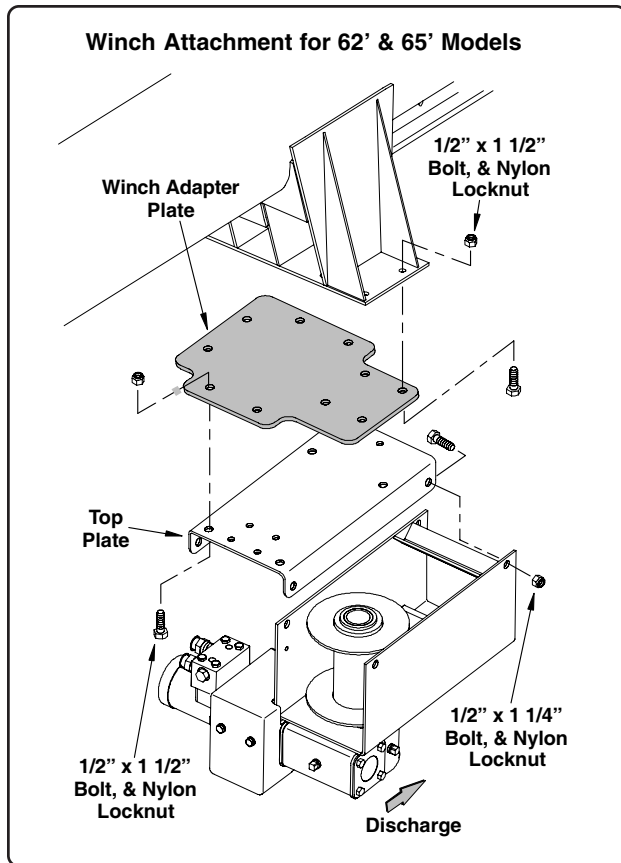

Fig. 39A
**For 62' & 65' Models:** Attach the winch adapter plate to the winch mount using six (6) 1/2" x 1 1/2" bolts and nylon locknuts (See Fig. 39A on Page 53).